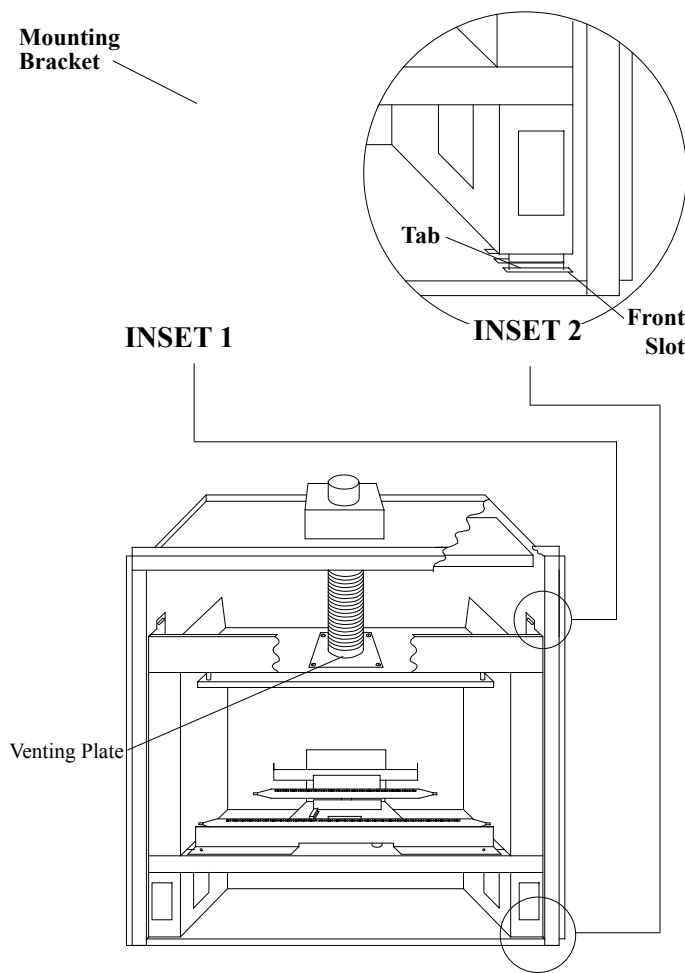

Figure 9. MD34-BV insert.
2. Remove the fresh air flex from the collars on the shell. *See Figure 9. Important: Be careful not to damage the fresh air flex during removal or storage.*